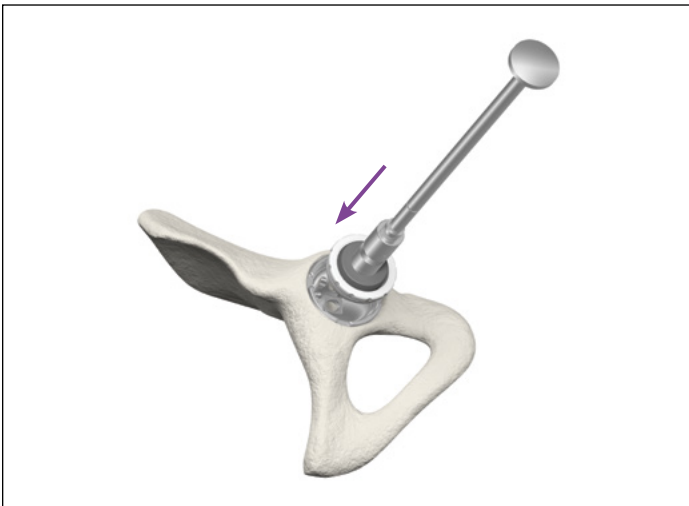

Figure 19
4. Position Insert Positioner/Impactor Handle into inner diameter of insert. Take care to align handle with the axis of shell. Strike handle with approximately four firm mallet blows to fully seat the insert (Figure 19).